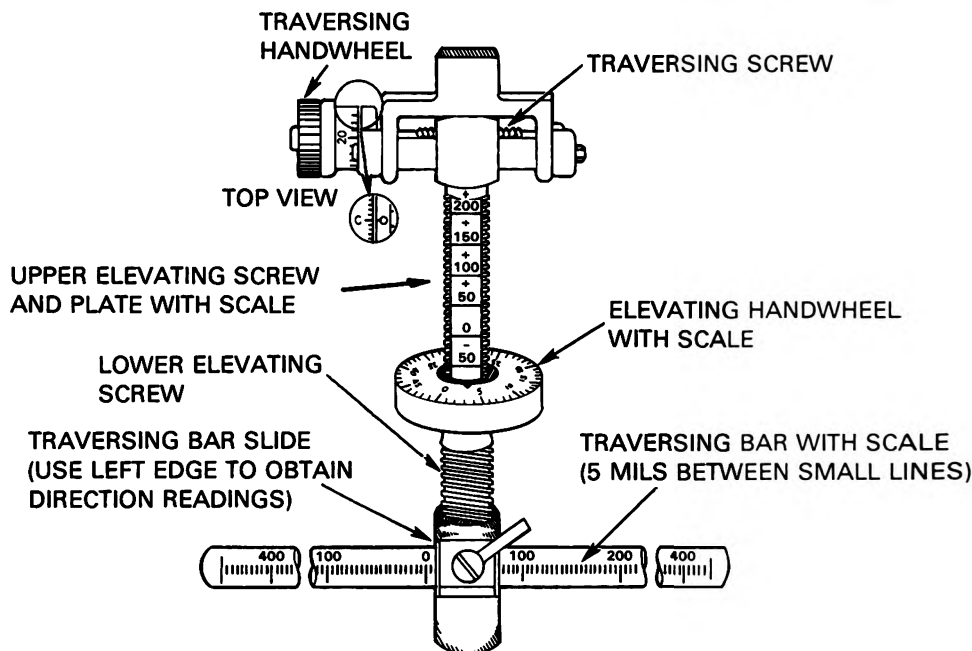

Figure 4. T&E mechanism.
3. Preparation of the Data Section Using the T&E Mechanism (figure 4).
- (1) Lay gun on center of target.
- (2) Read the direction directly off the traversing bar at the left edge of the traversing bar slide (figure 4).
- (3) Right or left reading is determined by direction of barrel (just the opposite of the slide).
(4) Enter reading under ELEVATION column of range card data section by separating the two numbers with a slash (/). Always enter reading from upper elevating bar (figure 4 reading is -50/3).
- (1) Lay gun on base of target by rotating elevating handwheel (figure 4).
- (2) Read the number (to include + or - sign except for "0") above the first visible line on the elevating scale (figure 4 reading is -50).
- (3) Read the number off of the elevating handwheel which is in line with the indicator (figure 4 reading is 3).
(4) Enter reading under ELEVATION column of range card data section by separating the two numbers with a slash (/). Always enter reading from upper elevating bar first (figure 4 reading is -50/3).